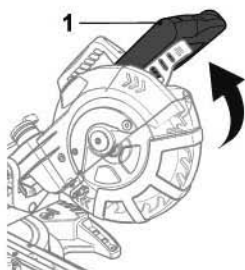

Fig. 5
2. Lift the handle (1) to its full height (Fig. 5).